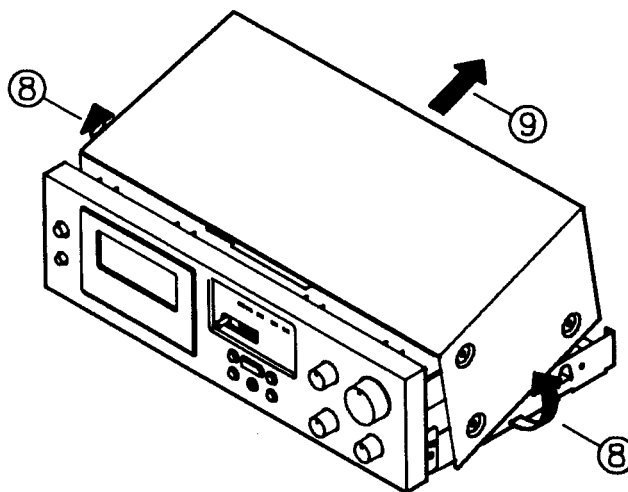

Fig. 2.
2. Pull both sides of TOP COVER outward and turn about 35° (shown as arrow ⑧ ) then remove as arrow ⑨ shows. (See Fig. 2.)